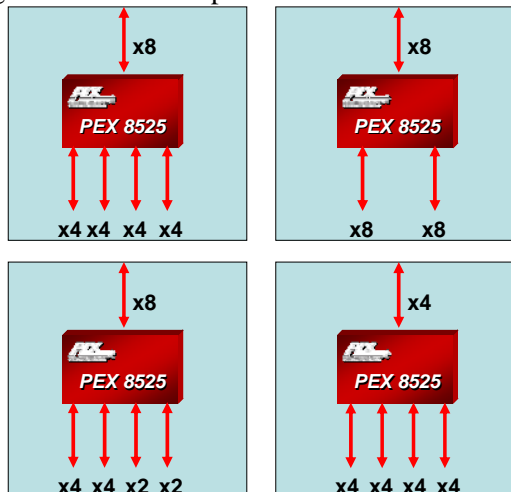

Figure 1. Common Port Configurations
The PEX 8525 supports a large number of port configurations (see Figure 1). For example, if you are using the PEX 8525 in a fan-out application, you may configure the upstream port as x8 and the downstream ports as four x4 ports; two x8 ports; or other combinations as long as you don't run out of lanes (24) or ports (5). In a peer-to-peer application, you can configure all five ports as x4. In a port aggregation application you can configure four x2 or x4 ports for aggregation into one x8 port.